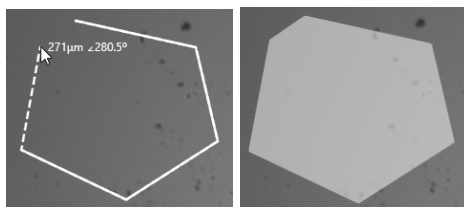

Figure 3-52 Drawing a polygon (l), polygon ready (r)
2. Press **POLYGON** to draw a polygon, see **Figure 3-52 below**.